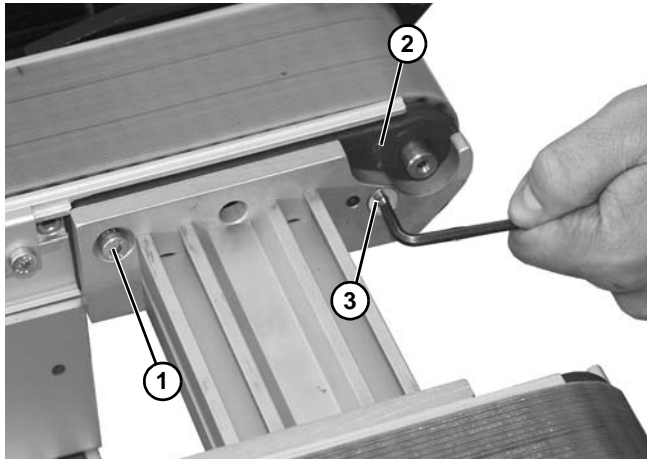

Figure 26
2. Install screw (**Figure 26, item 1**) onto spindle plate (**Figure 26, item 2**).
3. Install screw (**Figure 26, item 3**) to secure front side of plate. Repeat on opposite side.